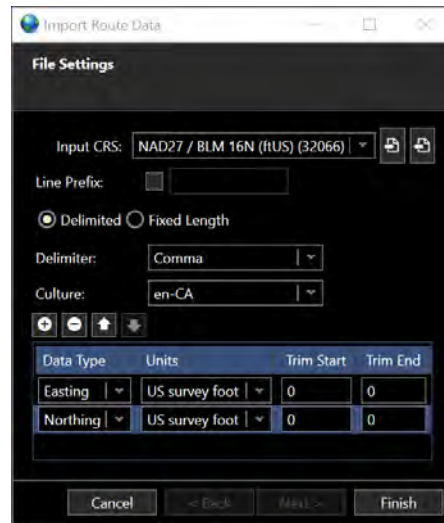

FIGURE 10-17 IMPORT ROUTE DATA - FILE SETTINGS
4. The Import Route Data wizard is launched on the first page, File Settings (see Figure 10-17)